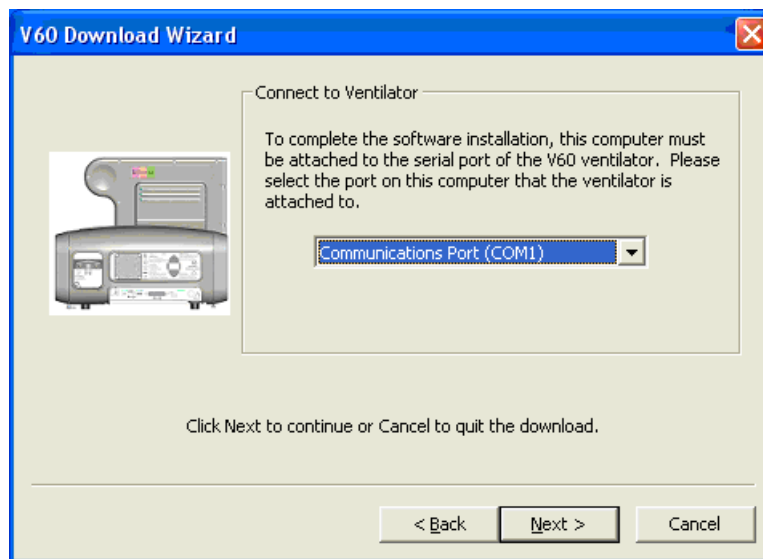

Figure A-15: Serial Port Connection
11. Select the serial port that the V60 is connected to (Figure A-15).